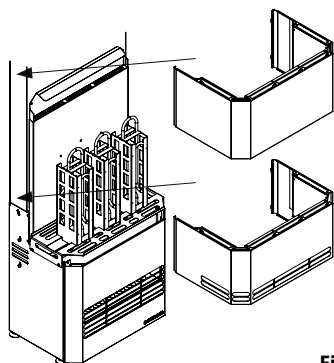

Figure 20
7. Install each stone basket section using the hooks in the opening behind the hot air intake (Figure 20 & 21).